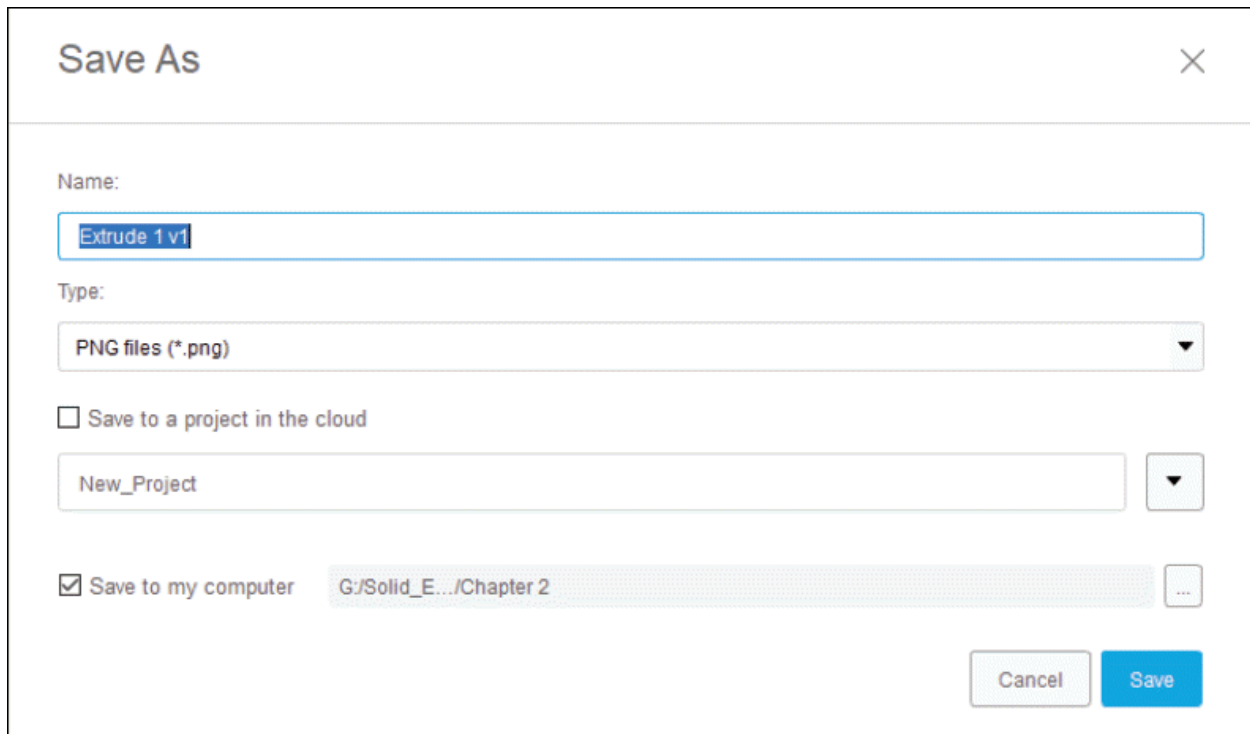

Figure-70. Save As dialog box for image capturing
- After setting desired parameters, click on the **OK** button from **Image Options** dialog box. The **Save As** dialog box will be displayed; refer to Figure-70.